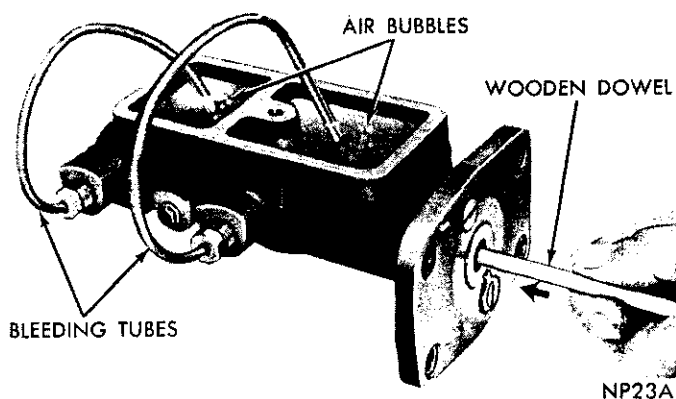

Fig. 7—Bleeding Master Cylinder
(1) Clamp master cylinder in a vise and attach bleeding tubes Tool C-4029 (Fig. 7).
(2) Fill both reservoirs with approved brake fluid.
(3) Using a wooden stick or dowel (power brake equipped vehicles) or depress push rod slowly and allow the pistons to return under pressure of springs. Do this several times until all air bubbles are expelled. (Fig. 7).
(4) Remove bleeding tubes from cylinder and install cover and gasket. (As tubes are removed, fluid remaining in tubes will syphon out.)
(5) Install cover retaining clamp and clamp screw.
(6) Remove from vise and install master cylinder on vehicle as follows: